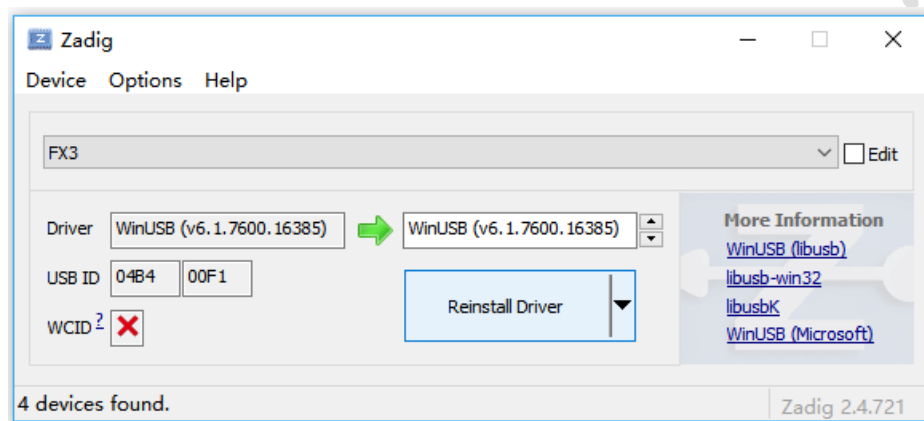
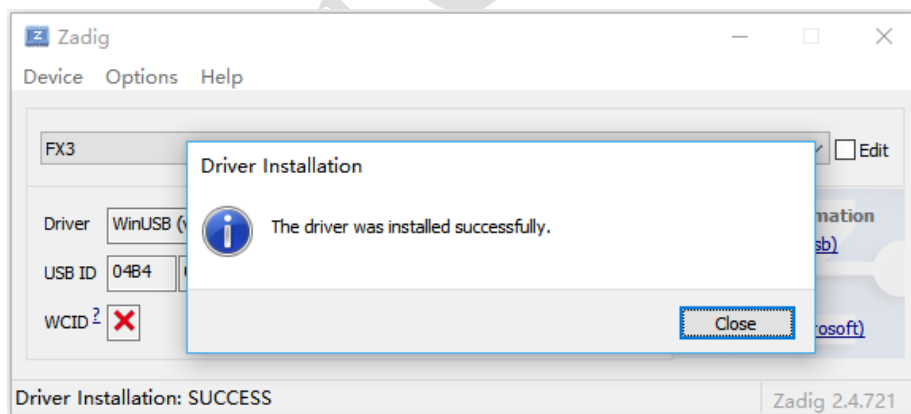

Fig. 1-4
Fig. 1-5
- (3) Click “**Install Driver**” or “**Reinstall Driver**” (Fig. 1-4) to install the driver. After the installation is successful, Figure 1-5 will be shown.